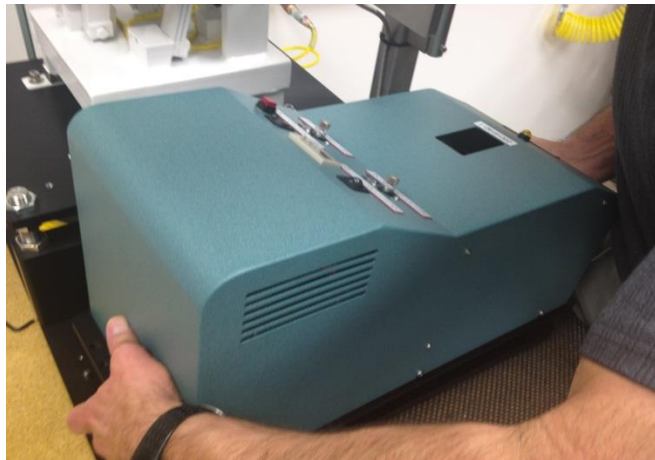

Figure 4.1.5
- With the four (4) screws removed you can now lift evenly from the front and rear of the machine until you clear the two (2) dowel pins located in the front and rear of the Vibratory base. *Figure 4.1.5*